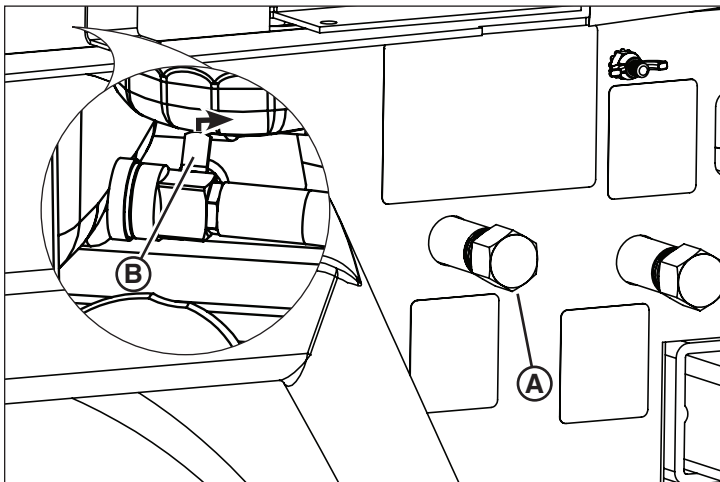

Figure 21
The unit is equipped with a remote engine oil drain (A, Figure 21), located on the left side of the light tower trailer toward the rear. To drain the engine oil:
3. Open the oil drain valve, located to the right of the engine oil pan (B, Figure 21, inset).